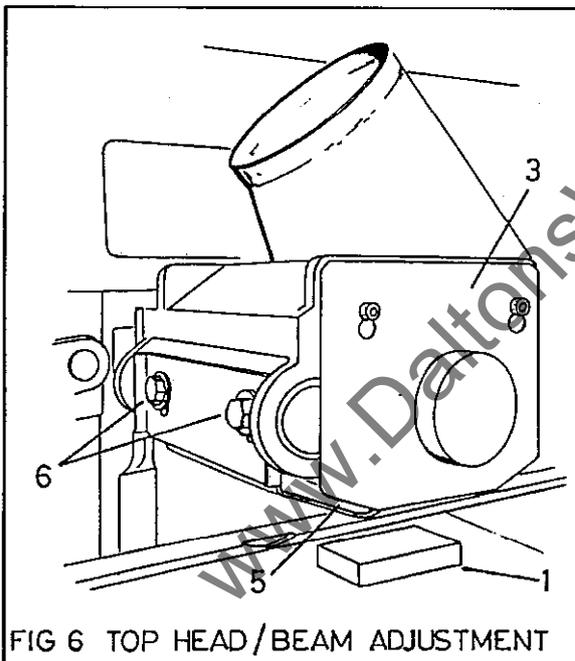
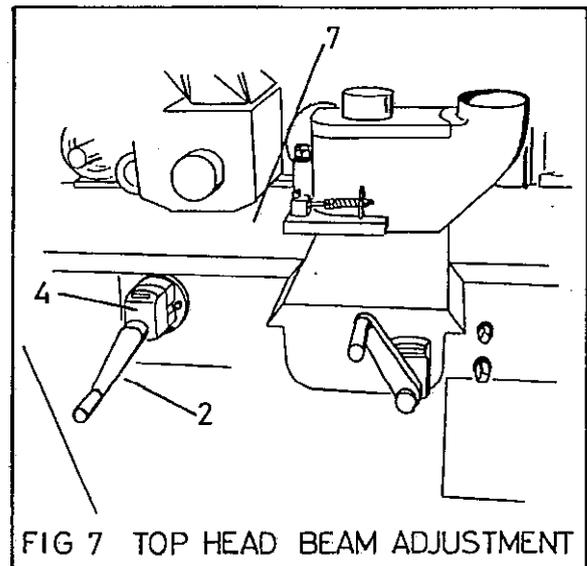

FIG 6 TOP HEAD/BEAM ADJUSTMENT
FIG 7 TOP HEAD BEAM ADJUSTMENT
- 4) If the 'siko' reading does not correspond to that of the datum block, slacken off the grub screw in the collar of the indicator (5) and rotate collar to achieve correct reading. Tighten grub screw.
- 5) Slacken off side guide screw (7) and using the same datum block positioned between guide (8) and fence (9). Set the guide to provide a very light pressure on the block. Tighten screw (7).
- 6) Remove block, replace and tighten exhaust lid (4). If no further adjustments are required close hood and restore power.
- 7) Reading off the siko indicator set the cutterblock to the desired timber width. Tighten adjusting lock (10).
- When the powered top head/beam is fitted it should be set at the same time. Ensure all other heads, fences, feed rollers, etc, have been set before passing timber through. Near side head guide (8) and top head pressure (Fig 6 item (5)) should be adjusted clear of the timber to be passed through.
- 4) Slacken off the side guide screw (7) and using the test piece between fence (9) and guide (8) set the guide to exert a very light pressure on the timber.
Top Head/Beam Adjustment (Fig 6, Fig 7)